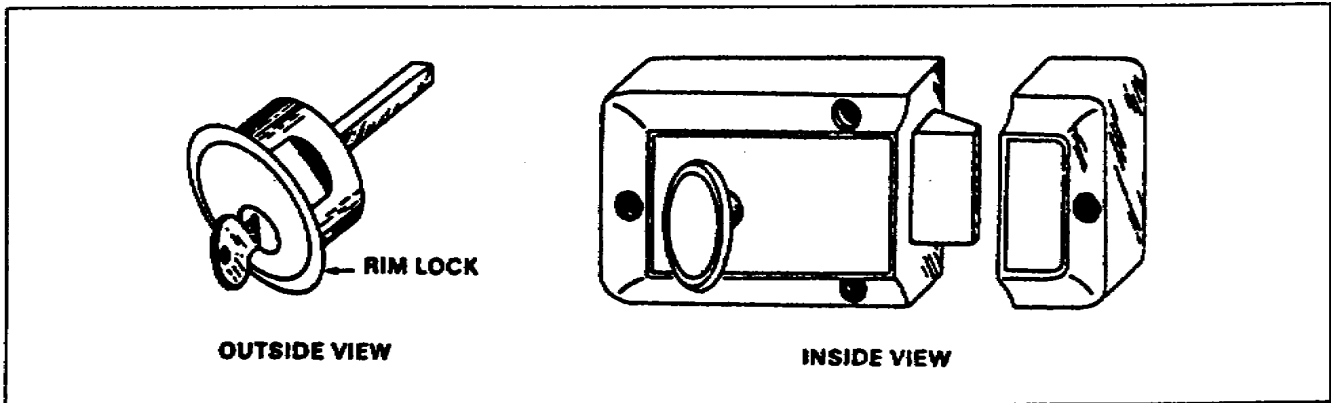

Figure 1-62. Rim lock
e. Rim Locks. Rim locks (Figure 1-62) are easier to install because they are normally installed on the inside surface of exterior doors. One bored hole is usually all that is required. On some types, however, a recess must be cut for the lock.